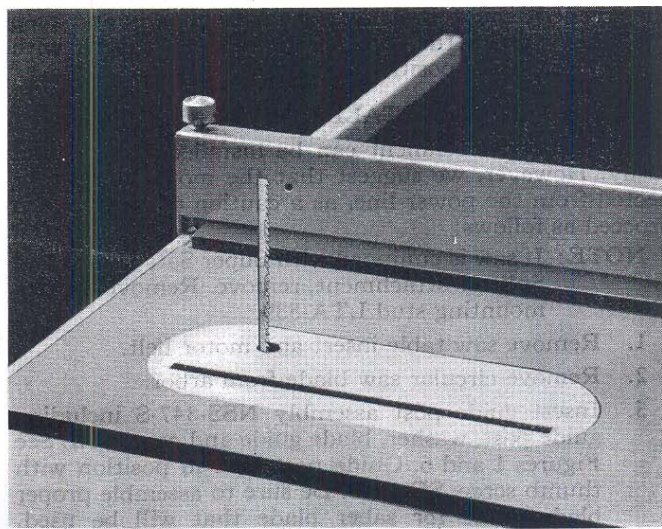

Figure 5
12. Put table insert in table, see Figure 5, and instructions on template below, or use special table insert catalog number 34-969.